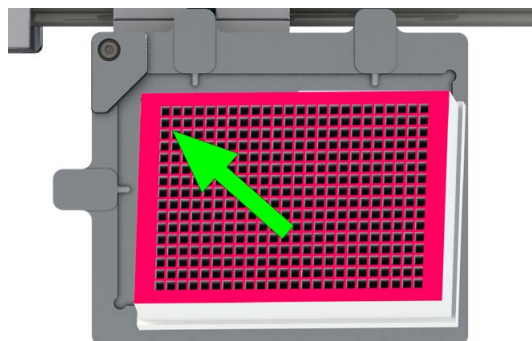

Figure 14. Load the Reagent Plate
- 3 Load the reagent plate into the instrument by positioning the plate with A1 in the upper left corner, sliding the top left corner of the plate under the overhang on the plate holder (see Figure 14), and then pressing the plate down into the plate locator. Make sure the plate is seated flat in the plate locator and the spring pins in the locator are pressed against the sides of the reagent plate.